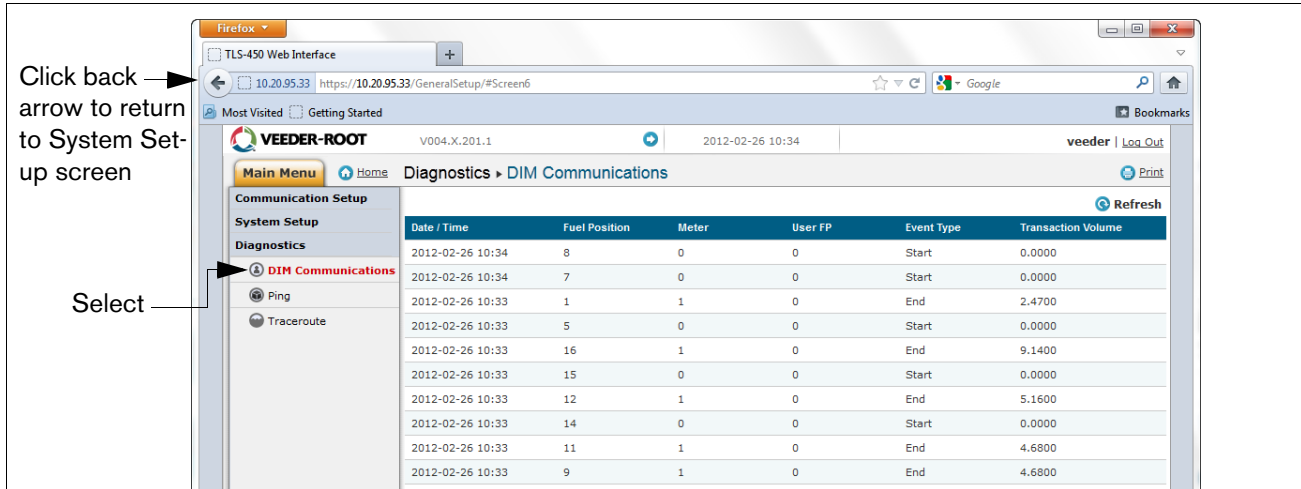

Figure B-10. Verifying DIM Communication
12. In the “Diagnostics” page (lower left in above figure), click on “DIM Communications” to verify that the DIM communications are successfully being recorded by the Datalogger. Any transactions occurring after the Datalogger was configured will be shown on the screen (see example in Figure B-10).